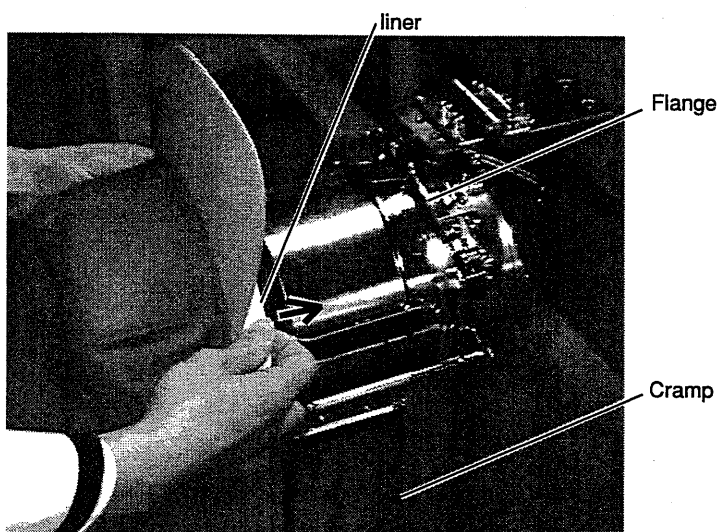

Fig. 6
- 3 As shown in Fig. 6, remove cramp and keep open to the right.